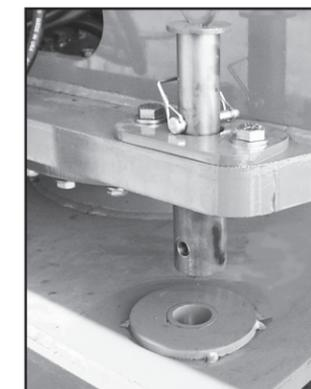

Figure 1: Locking bolt
3. Retract locking bolt. See figure 1.